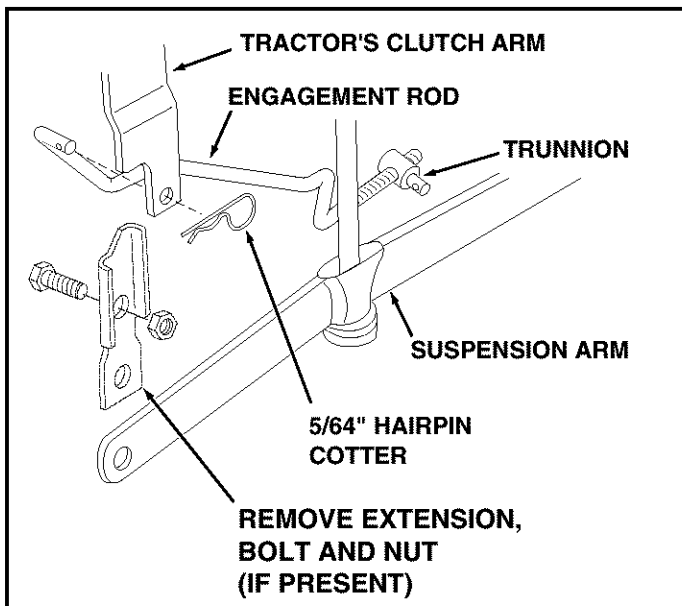

FIGURE 11 RIGHT SIDE VIEW
- Screw the trunnion onto the end of the snow thrower engagement rod as shown in figure 11.
- Position the engagement rod to the inside of the clutch arm and insert the drilled end of the rod through the arm. Secure with a 5/64" hairpin cotter. See figure 11.